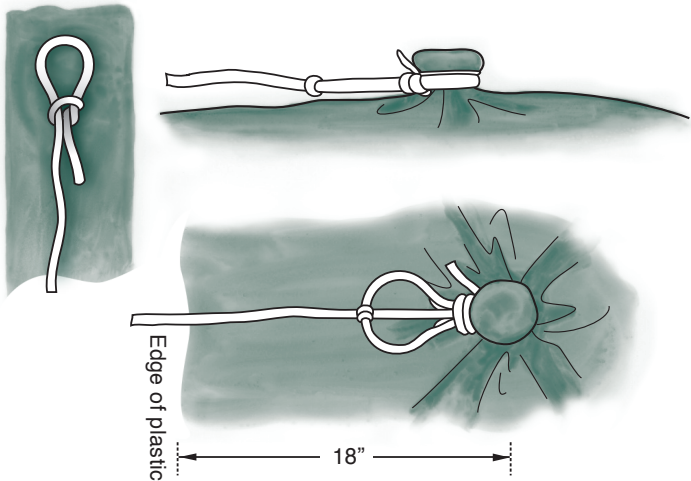

Figure 10: Plastic Tie-Down Buttons
(See Figure 10 on how to secure tie-down button to plastic).
- Extend twine through bottom of large end of frame, tie a half-hitch knot around the end, and secure twine to stake (Figure 10).